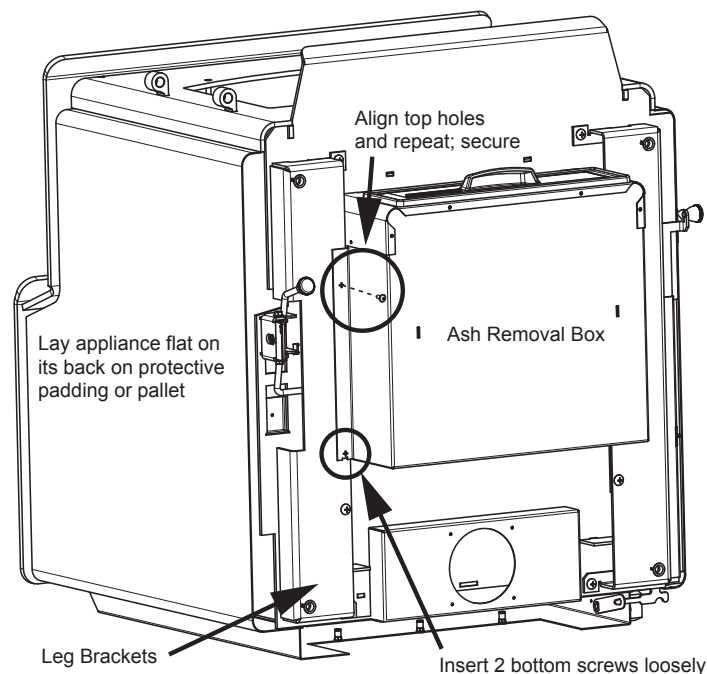

Figure 18.3
- Start bottom two bolts through ash drawer, leg mount and into the bottom of the appliance (**Figure 18.3**).